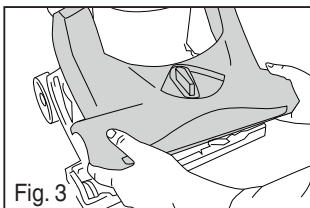

Fig. 3
- Replace brush roll cover (Fig. 3).